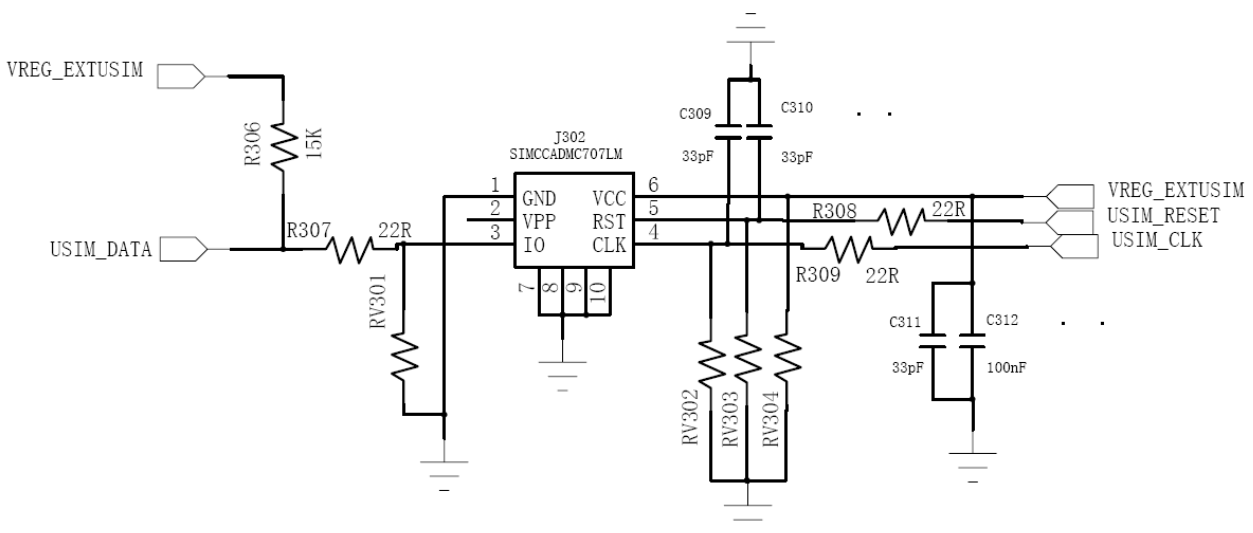

Figure 2-8 The reference circuit of USIM interface
The reference circuit of USIM interface is shown in Figure 2-8 below.
- 2) To avoid the instantaneous voltage overflowing, the resistor with reference value 22 Ω can be used for the DATA, CLK and RST line. Just like the resistors R307, R308 and R309 in Figure 2-8.
- 3) To avoid the static electricity in USIM socket, it is recommended to use the ESD protection device for the DATA, CLK and VCC line. Just like the varistors RV301, RV302, RV303 and RV304 in figure 2-8 which should be close to the USIM socket as possible.
- 4) To get more flat USIM power supply, it is recommended to use the filter capacitors. Just like C311 and C312 in Figure 2-8 with reference value 33pF and 100nF.